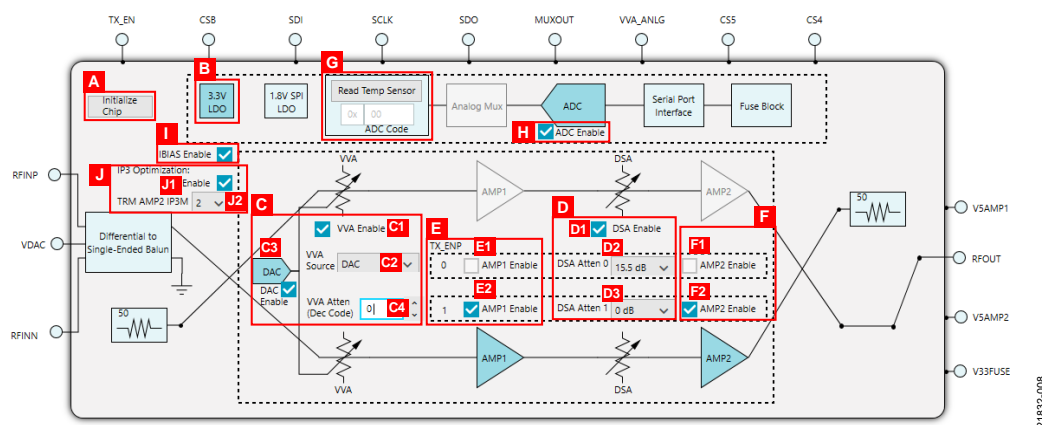

Figure 6. ADL6316 Chip Block Diagram
2. Click **Initialize Chip** (Label A, see Figure 6).
3. Click and adjust the block (Label B to Label H in Figure 6) if necessary.
Table 2. Main Screen Functionality (see Figure 6)